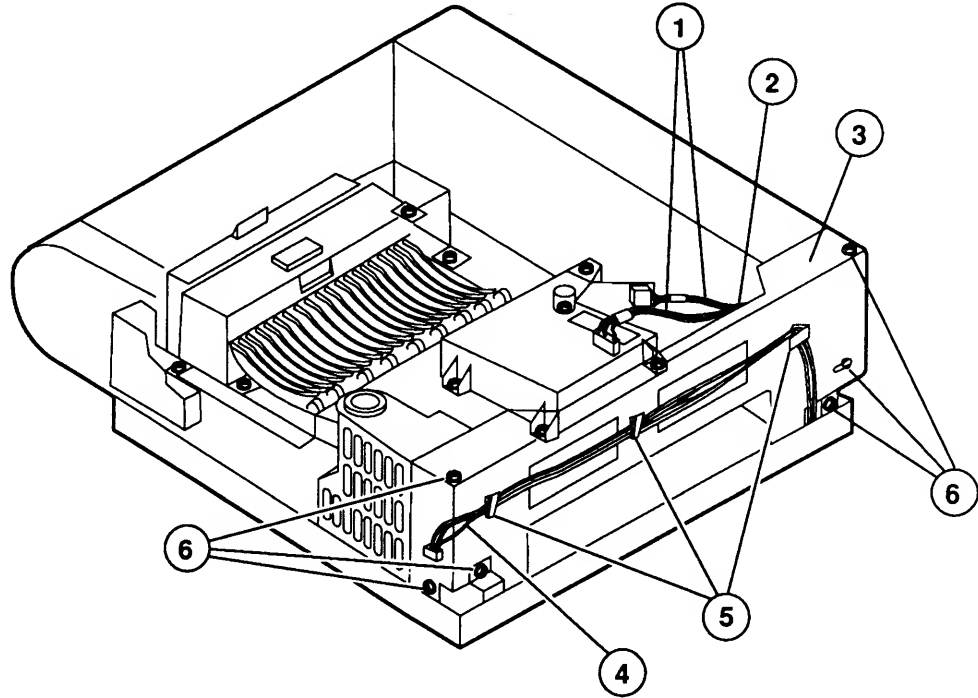

FIGURE 33
2. Remove the laser/scanner cables (Figure 33, #1) from the cable clip (Figure 33, #2) behind the right support plate (Figure 33, #3).
3. Remove the status panel cables (Figure 33, #4) from the three cable clips (Figure 33, #5) on the right support plate (Figure 33, #3).
4. Remove the six Phillips screws (Figure 33, #6) that secure the right support plate to the chassis, and rest the plate on the work surface next to the printer.
5. Place the right support plate in position and replace the six Phillips screws. Refer to Figure 33.
6. Replace the laser/scanner cables in the cable clip behind the right support plate. Refer to Figure 33.
7. Replace the status panel cables in the three cable clips on the right support plate. Refer to Figure 33.